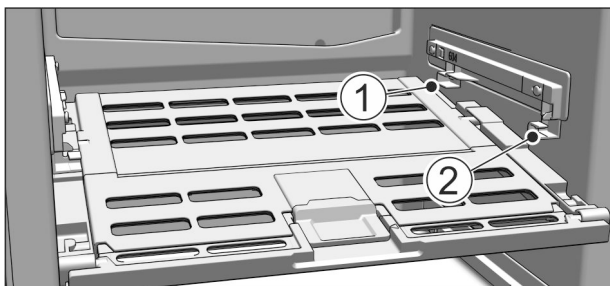

Fig. 75
- ▶ Replacing the Fruit & Vegetable safe cover: Guide the ridges on the cover into the rear brackets Fig. 75 (1) and click it into the front bracket Fig. 75 (2).